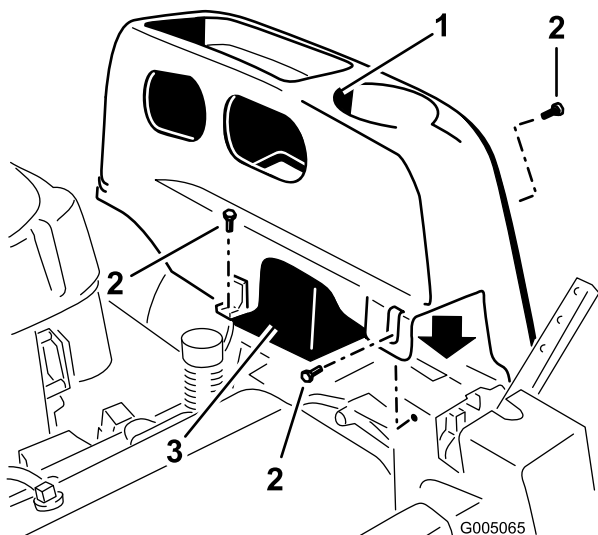

Figure 21
2. Remove the TORX® head fasteners (25) securing the left cover to the frame as shown in Figure 21.